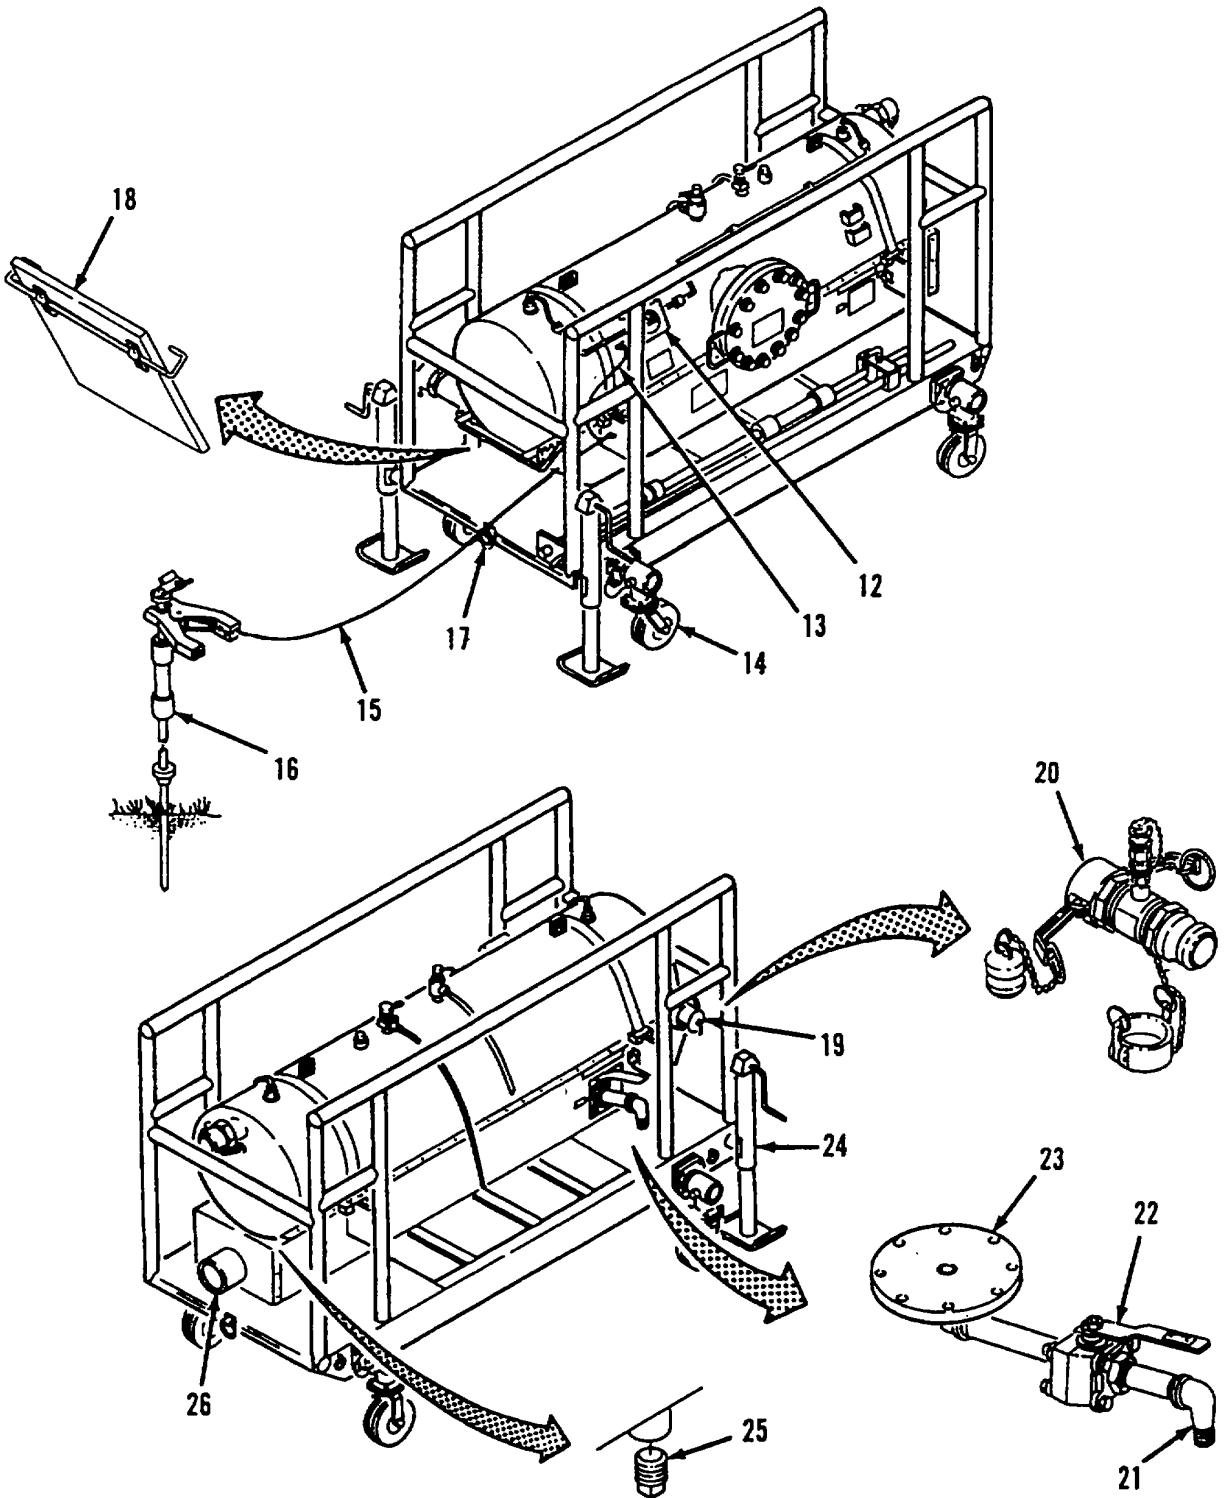

Figure 1-3. 200 GPM Filter-Separator Major Components, Items 12 - 26.
For items 12 through 26 refer to figure 1-3.